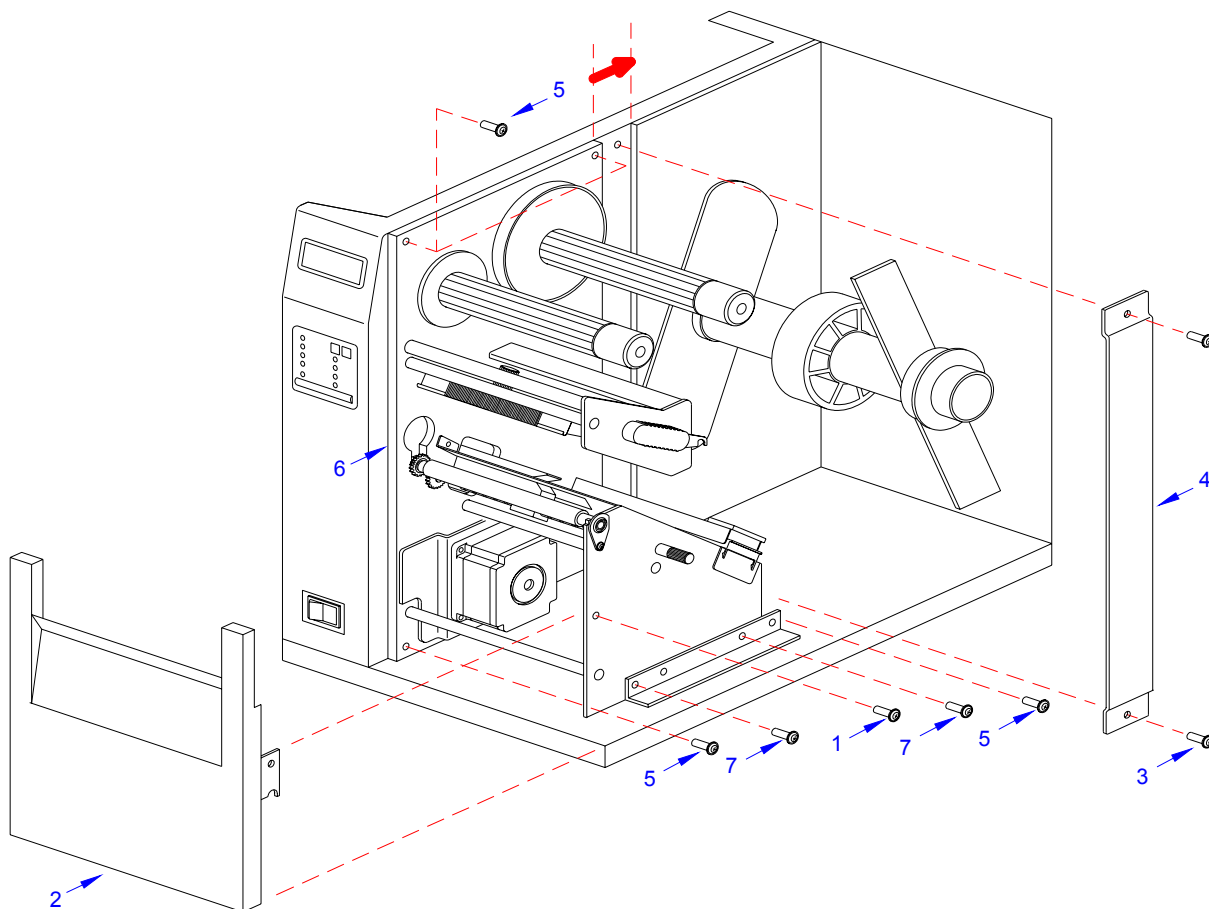

Figure 4-1a, Label Cutter Installation
- 4 Remove screw (1, Figure 4-1a) securing front cover (2) to the printer frame. Lift away front cover (2).